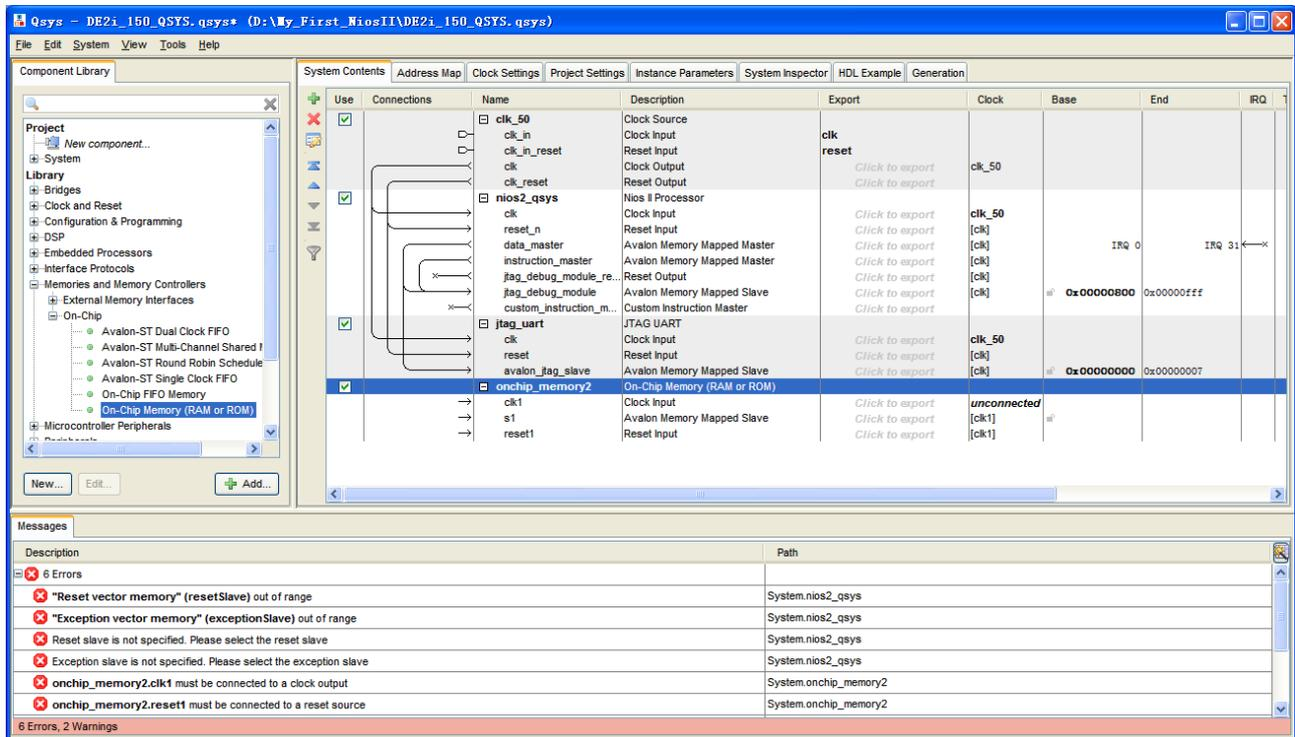

Figure 1-30 Rename On-Chip memory
18. Rename **onchip_memory2_0** to **onchip_memory2** as shown in Figure 1-30.